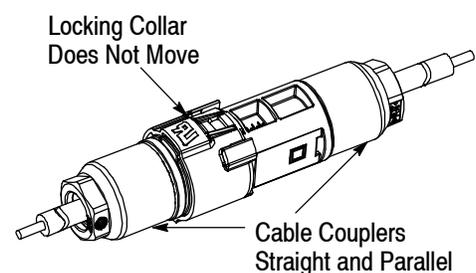

Figure 2
1. Slide the locking collar over the mating end of the male cable coupler with the latch aligned with the pockets of male cable coupler (see Figure 2, Detail A) until the latch sits in the first pocket of the male cable coupler as shown in Figure 2, Detail B.
2. Properly align the female cable coupler with the male cable coupler, and mate the cable couplers. See Figure 2, Detail B. When the cable couplers are fully mated, there will be an audible “click.”
3. To ensure that the locking collar is locked into place, try to twist and slide the locking collar (it should not move). Inspect the installation to ensure that the cable couplers are straight and parallel. See Figure 2, Detail C.